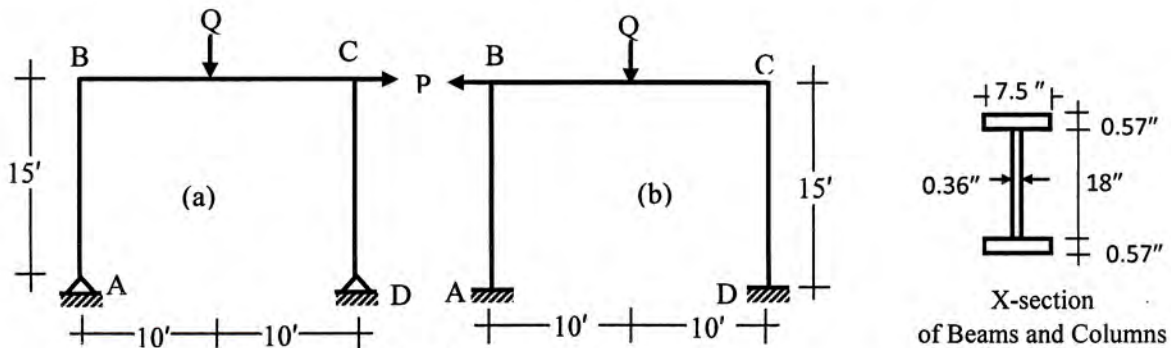

Fig. 10
11. In the frame $abcd$ loaded as shown in Fig.10, use Energy Method to
14. Use the Energy Method to calculate the load of the frames shown in Fig. 10 (a) and (b).